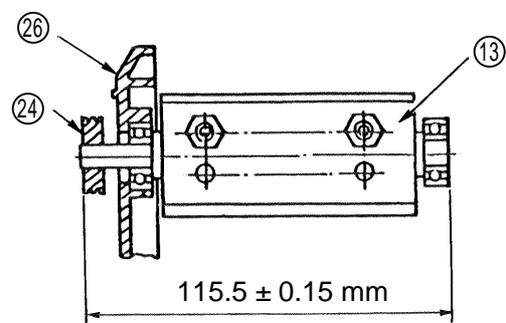

Fig. 14
- (3) Press Fitting of Pulley (B): (Fig. 14)
First, mount the End Bracket (26) onto the Cutter Block (13) as illustrated in Fig. 14. Then, press fit pulley (B) (24) onto the Cutter Block spindle so that the dimension between the outer surface of the 608VVC2 Ball Bearing (12) and the outer surface of Pulley (B) is as indicated in Fig. 14.